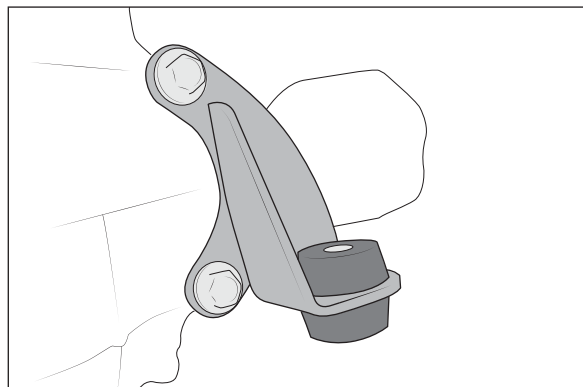

Figure 10
- B. Install driver side mount using factory bolts and torque to 81 ft-lb (fig. 10).
- D. Install bushings into front differential brackets so that steps are inside hole in brackets. Insert 40mm sleeves into bushings (fig. 10–11).